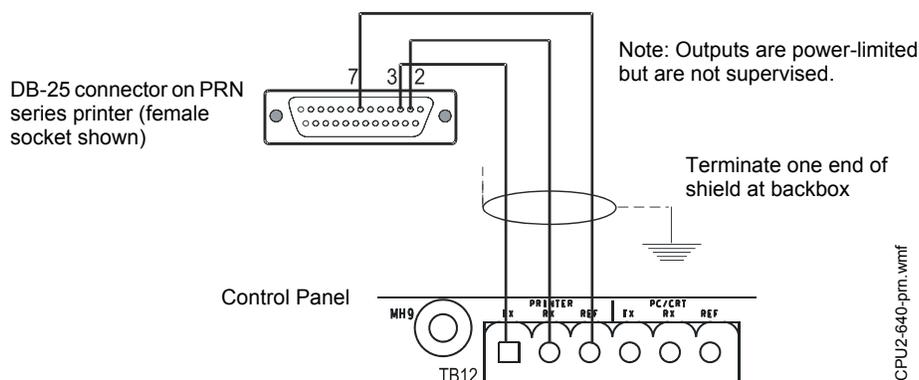

Figure 3.24 Remote Printer Connections
1. Connect the three (3) open leads of the custom cable to the TB12 terminal block on the control panel as shown in Figure 3.24.